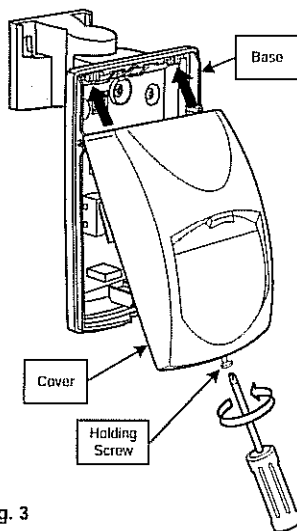

Fig. 3
1. Unscrew the holding screw and gently raise the front cover (*Fig. 3*).